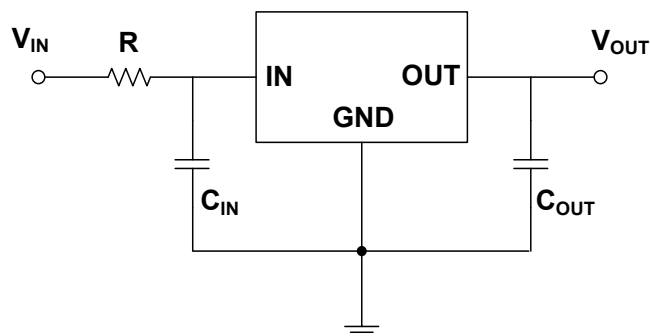

Figure 9-2. Resistance is used at IN
2. Place a resistor with appropriate resistance in series before the IN of the voltage regulator, which can help the voltage regulator share part of the energy in case of surge. The resistance value of the resistance should not be too large. The specific resistance value depends on the application of the circuit. Generally, the resistance value of this resistance does not exceed 20Ω. As shown in Figure 9-2.
For the CJ78 series, it is recommended that the input voltage should not exceed 17V and the peak voltage should not exceed 35V. **When the input voltage is greater than 17V, or the peak voltage that may be greater than 35V may appear in the practical circuit, it is recommended to adopt the circuit layout shown in Figure 9-2 in the circuit design.**
The CJ78 series can obtain better transient response with the help of output capacitance. However, if the output capacitor is relatively large, the surge current generated by the charging of the output capacitor will also be large at the moment of power on of the regulator, and the large surge current passing through the regulator may damage the internal circuit. When the output capacitance is large, adopting the circuit design shown in Figure 9-2 will reduce the possibility of damage to the device due to large surge current to a certain extent. It is recommended that the selection of output capacitor should not exceed 20 μ F. **If the selection of output capacitor exceeds 20 μ F, it is recommended to adopt the circuit design in Figure 9-2 to reduce the possibility of accidental failure of the device due to large surge current during power on.**
It is recommended that the output capacitor (C_{OUT}) should not exceed 20 μ F. When the output capacitor (C_{OUT}) exceeds 20 μ F, it is recommended to use the circuit layout shown in Figure 9-2. See *Large Output Capacitance* for more details.